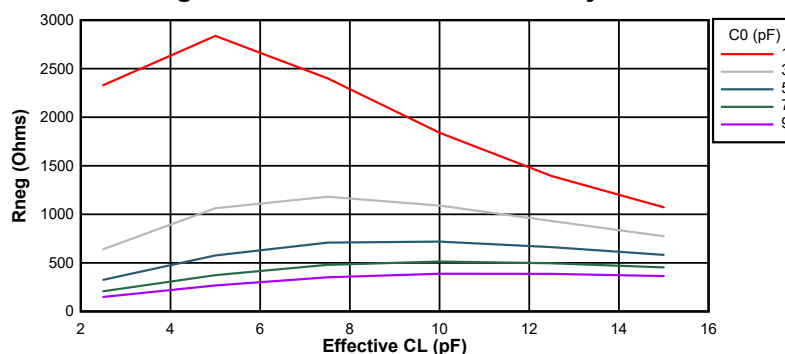
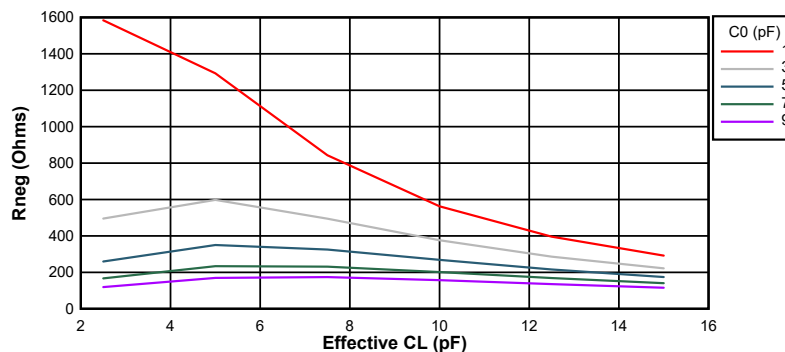

Figure 6-15. Negative Resistance Variation at 10 MHz
Figure 6-16. Negative Resistance Variation at 20 MHz
Figure 6-15 and Figure 6-16 show the variation between negative resistance and the crystal components for this device. As can be seen from the graphs, the crystal shunt capacitance (C0) and effective load capacitance (CL) greatly influence the negative resistance of the electrical oscillator. Note that these are typical graphs; so, refer to Table 6-5 for minimum and maximum values for design considerations.